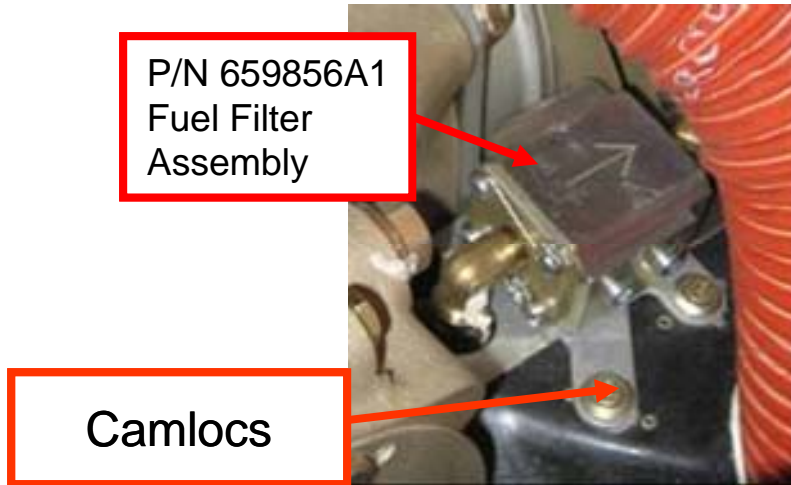

Figure 3
- Disengage the camlocs that secure the fuel filter mounting bracket to the forward apron assembly. With fuel lines attached, lift the fuel filter assembly vertically removing the fuel filter assembly with hoses, from the aircraft. (Figure 3)
4. Disengage the camlocs that secure the fuel filter mounting bracket to the forward apron assembly. With fuel lines attached, lift the fuel filter assembly vertically removing the fuel filter assembly with hoses, from the aircraft. (Figure 3)